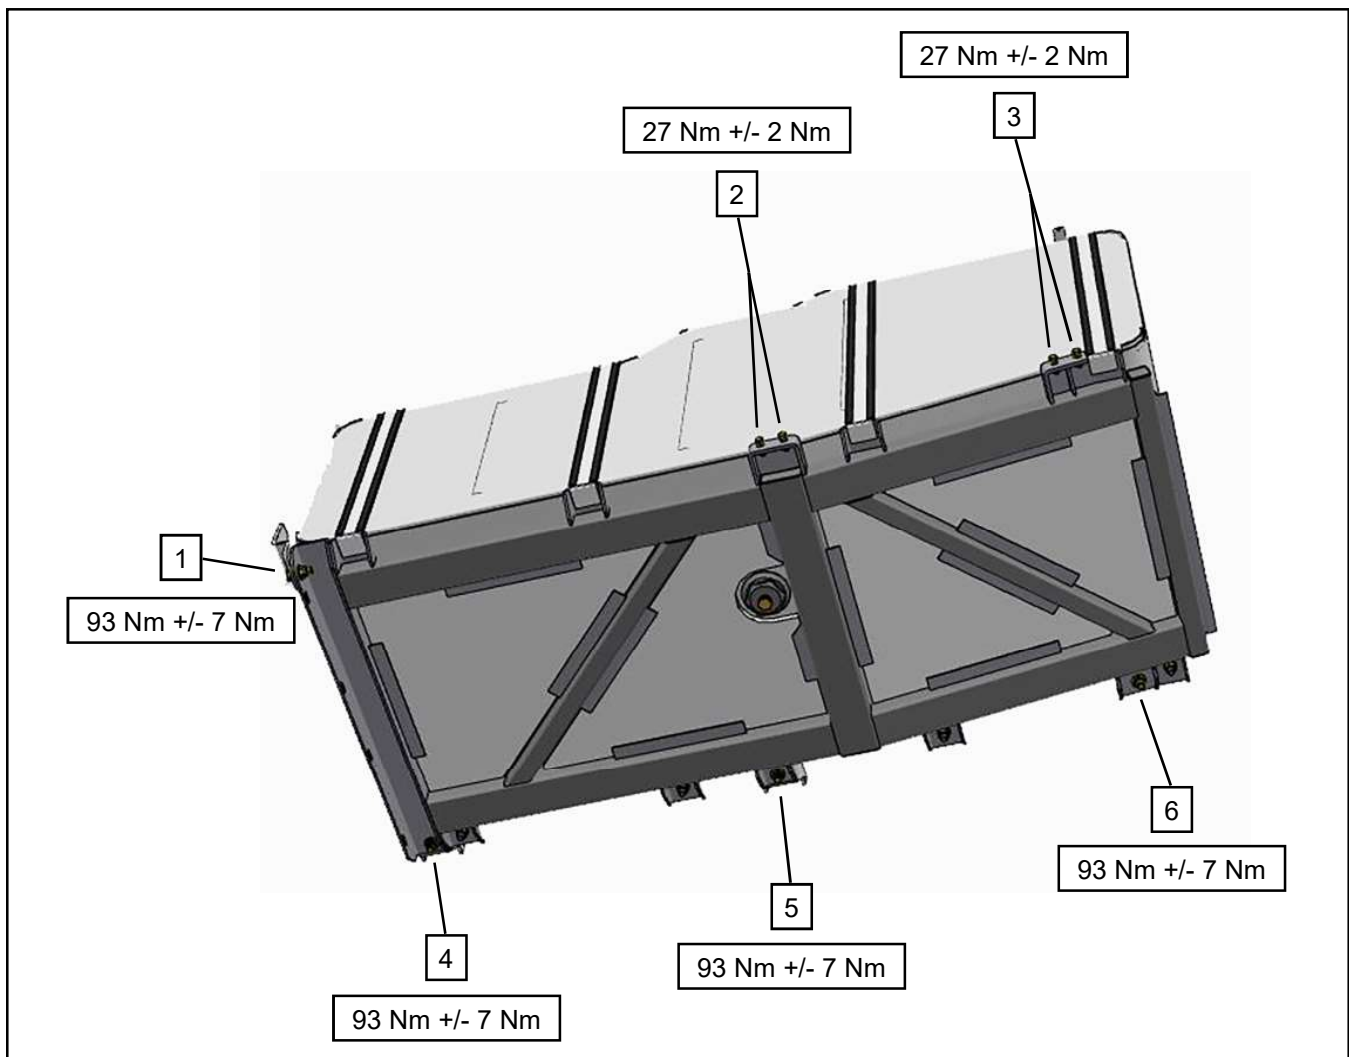

Figure 2 - Mounting Points Locations and Torque Values
- 1.4. Locate the 6 mounting points of the fuel tank cradle (see Figure 2).
- 1.8. Torque the screw at mounting point 1 to the torque value show in Figure 2.
- 1.9. Install the new 4 screws (N44885-03), washers (N30731) and lock nut (N87918) at mounting points 2 and 3 and apply the torque value show in Figure 2.
- 1.10. Finally, torque the screw at mounting point 4, 5 and 6 to the torque value show in Figure 2.